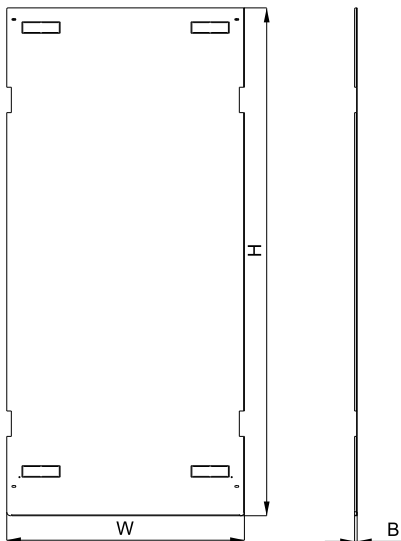

Figure 1
2.3 Overall dimensions of the panel are shown on figure 1 and in table 2.